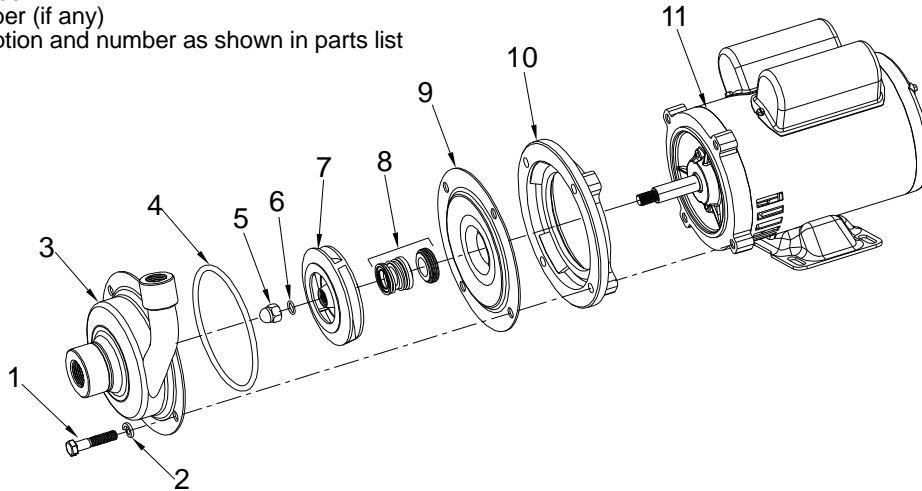

Figure 4 — Repair parts for illustration
**NOTE:** MOTOR ( FOR UNITS SHIPPED WITHOUT DRIVER ONLY) (Refer to Figure 4&5)
(Refer to figure 4)